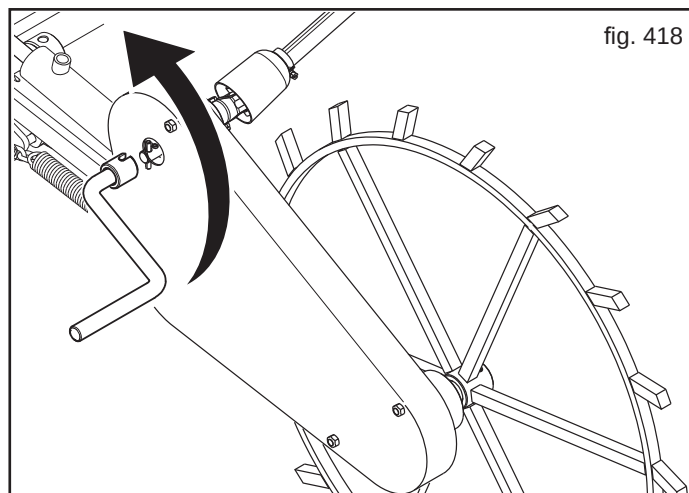

fig. 418
- 6) In order to perform the actual distributor test itself, insert the sowing test handle in the gearbox and rotate it in a counter-clockwise (Fig. 418), as shown on the sticker: the revolutions of the handle correspond to a 1/40 of a hectare.